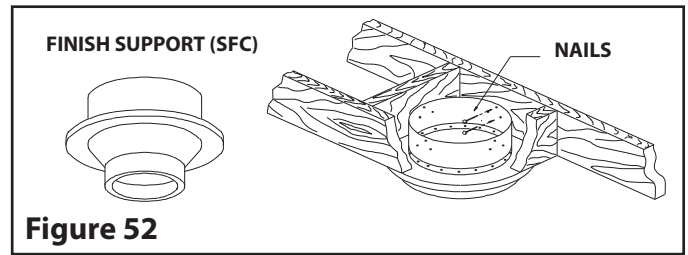

Figure 52
Step 2. From below push the support into the framed hole. Nail the support to the framed box using (12) 3" spiral nails or #8 x 1 1/2" wood screws (see **Figure 52**).